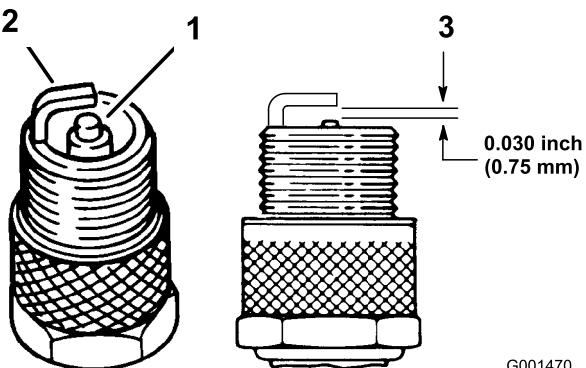

Figure 30
- Look at the center of the spark plugs (Figure 30). If you see light brown or gray on the insulator, the engine is operating properly. A black coating on the insulator usually means that the air cleaner is dirty.
- Check the gap between the center and side electrodes (Figure 30). Bend the side electrode (Figure 30) if the gap is not correct.
- Connect the wires to the spark plugs (Figure 30).